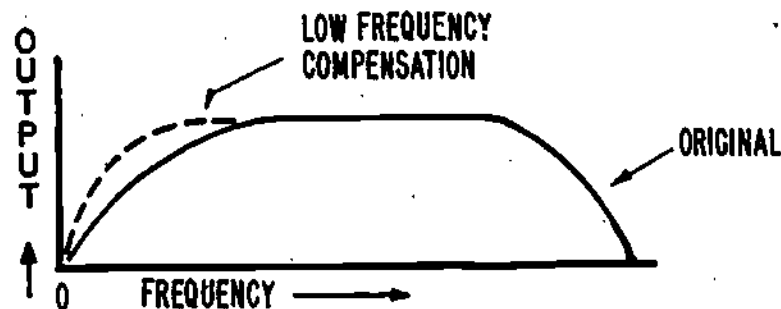

Figure 7
7. The effect of low frequency compensation on the overall circuit frequency response is shown in Figure 7.